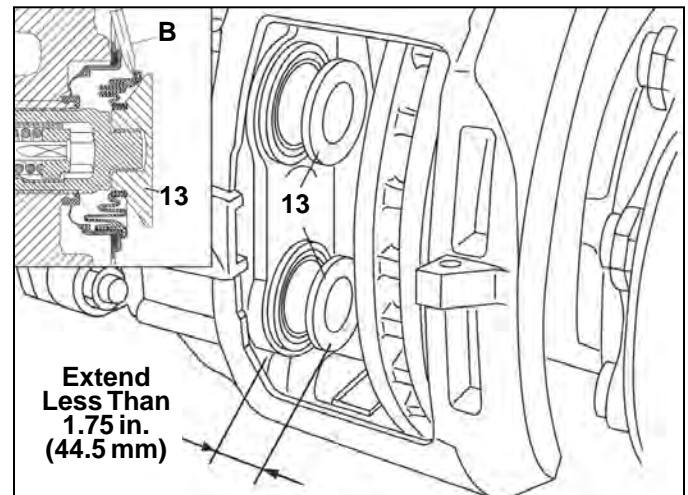
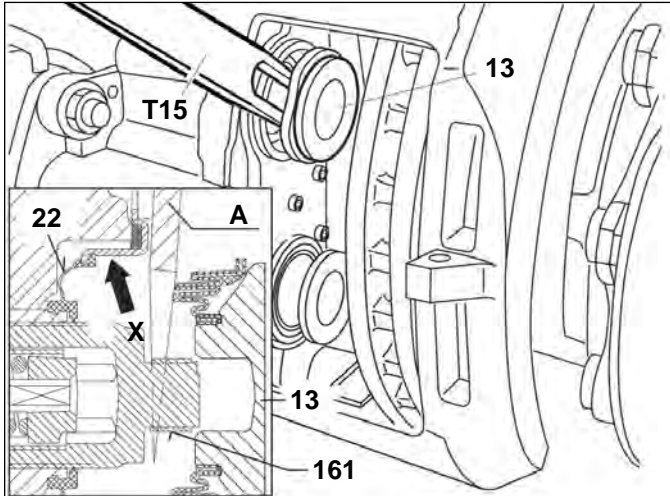

FIGURE 47 - PERMITTED TAPPET EXTENSION
FIGURE 48 - WEDGE TOOL USE
**CAUTION:** NEVER EXTEND THE TAPPET MORE THAN 1.75 in. (44.5 mm). See Figure 47. Over-extending the tappet will result in the tappet losing engagement with the threads of the synchronizing mechanism. Since the mechanism can only be set at the manufacturing plant, the caliper/carrier assembly must be replaced if this happens.
5.5.4 See Figure 47. Extend the tappets — less than 1.75 in. (44.5 mm) — by turning the shear adapter (61) clockwise. A screwdriver (callout “B” in
Figure 47 inset) should be used to move the boot and allow the wedge fork (“A” in Figure 48) to be inserted.
**CAUTION: Do not insert the screw driver more than ¼ inch. Take care not to damage the inner sealing face (see arrow “X” in Figure 48). Gouges or grooves will prevent a good seal and will require that the caliper be replaced.**